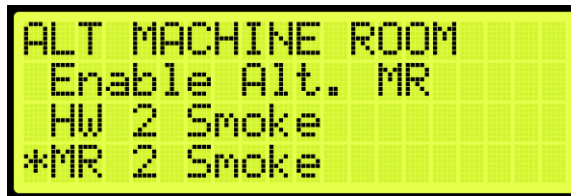

Figure 571: ALT MACHINE ROOM Menu – MR 2 Smoke
3. From the ALT MACHINE ROOM menu, scroll and select MR 2 Smoke (See Figure 571).
- From the ALT MACHINE ROOM menu, scroll and select MR 2 Smoke (See Figure 571).